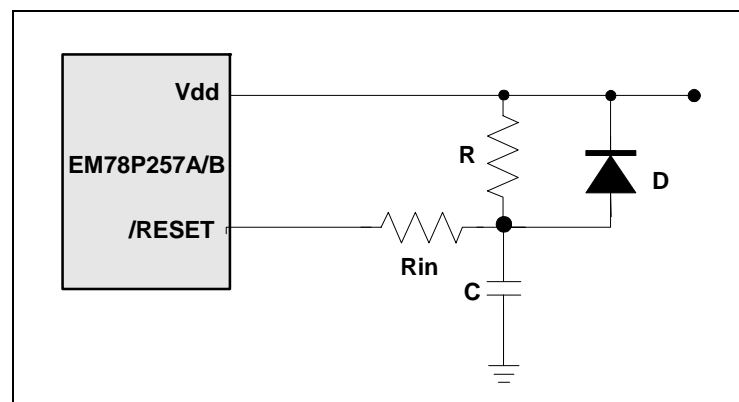

Fig. 5-20 External Power-on Reset Circuit
The circuitry shown in Fig. 5-20 implements an external RC to produce the reset pulse. The pulse width (time constant) should be kept long enough for V_{dd} to reach minimum operation voltage. This circuit is used when the power supply has a slow rise time. Because the current leakage from the /RESET pin is about ±5 μA, it is recommended that R should not be greater than 40K. In this way, the voltage in the /RESET pin will be held below 0.2V. The diode (D) functions as a short circuit at the moment of power down. The capacitor C will discharge rapidly and fully. R_{in}, the current-limited resistor, will prevent high current discharge or ESD (electrostatic discharge) from flowing to the /RESET pin.